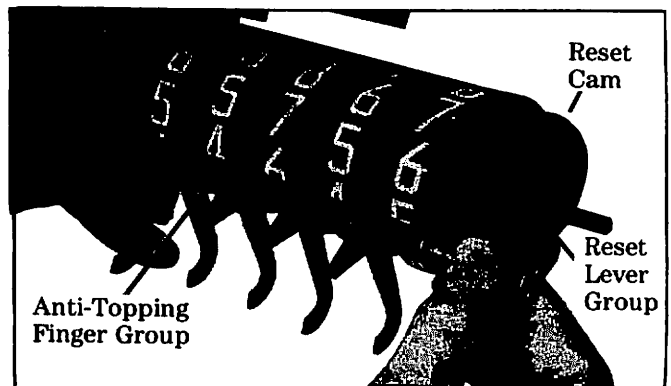

Figure 19. Anti-Topping Finger Group Installation.
2. Anti-Topping Finger Group Installation. See Figure 19.